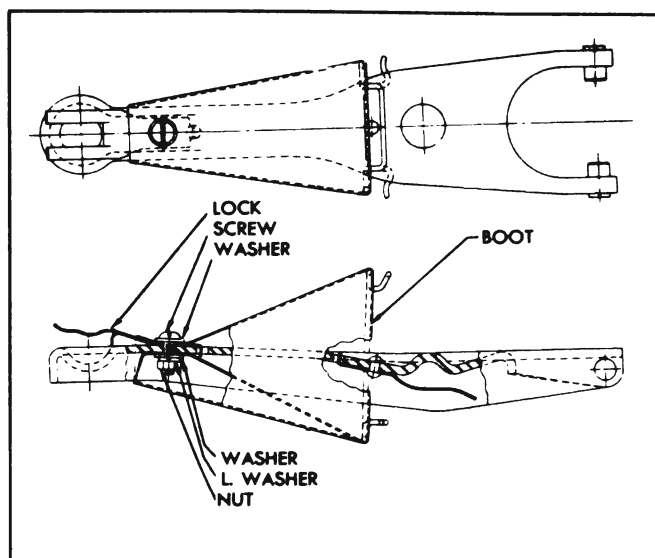

Figure 4-5—Clutch Release Yoke and Boot
2. Disconnect release rod from release yoke and remove yoke boot and release rod nut lock which are bolted to yoke. See figure 4-5.
8. Install boot and release rod nut lock on yoke (fig. 4-5), attach release rod to yoke, then adjust for clutch pedal lash of  $\frac{3}{4}$ " (par. 4-4).